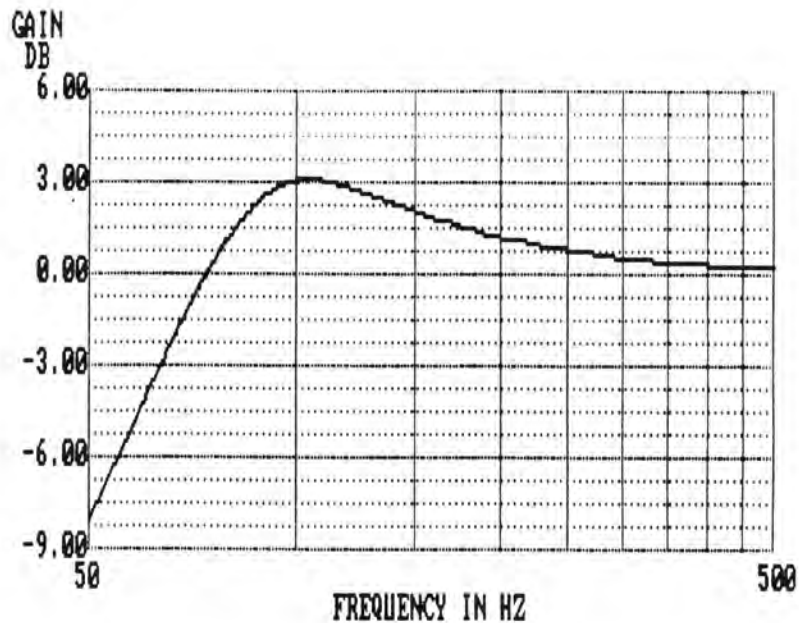

FIGURE 5.1 BASS PRE-EMPHASIS FILTER RESPONSE
5.18 The second output signal of U10 is applied to the **LIMITING** switch S4 located on the front panel. The output of S4 is then routed to the **BASS PRE-EMPHASIS** circuit comprised of J11, non-inverting ports of U12, C26, C27, R66 and R67. If J11 is in the **IN** position C26 and C27 are in the circuit. When in the **OUT** position these capacitors are out of the circuit. Refer to Figure 5.1 which typifies the frequency response of this circuit.